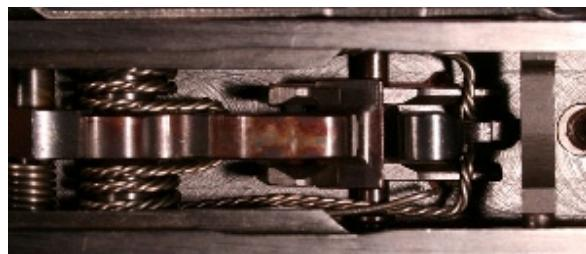

Figure 71. The Hammer in the Cocked Position.
m. Push the hammer down until it locks in the cocked position. Refer to Figure 71.